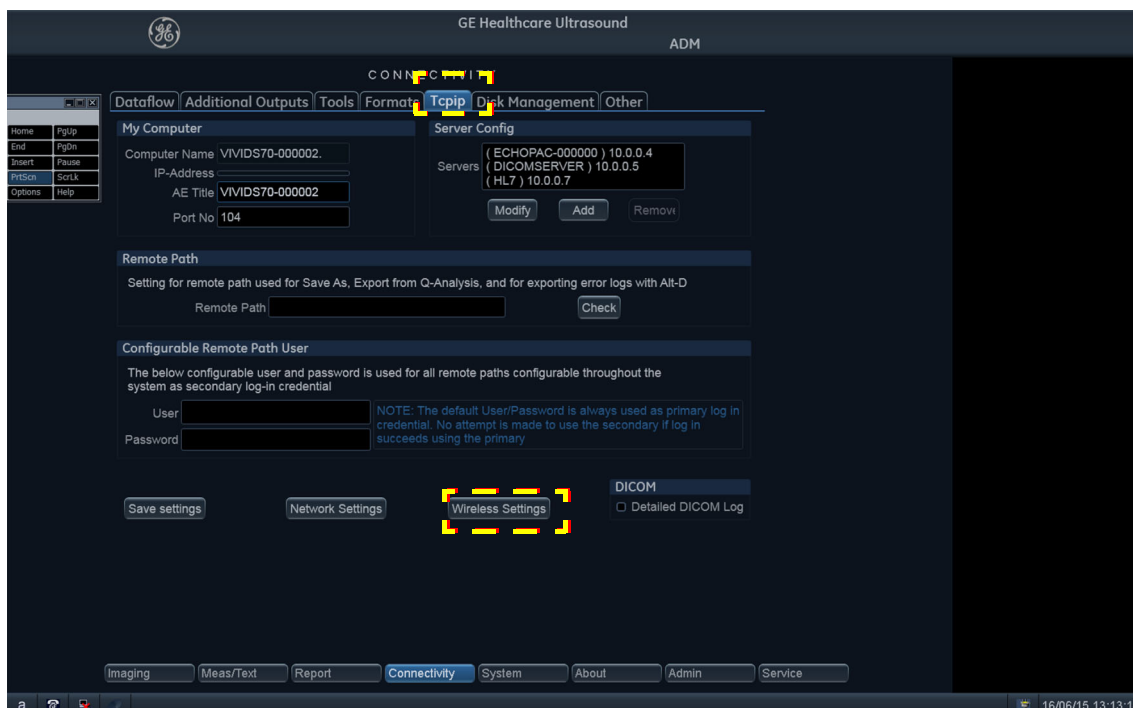

Figure 3-27 Connectivity - TCP/IP Tab
5.) Click the **Wireless Settings** button - see Figure 3-27.